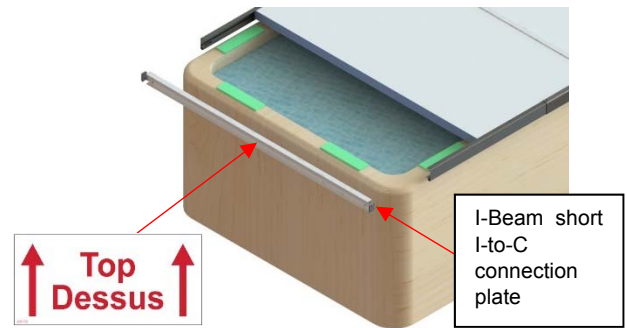

Figure 27
25) Slide the I-Beam with the short I to C connection plates in the C-Channels with the bent portion pointing inwards (Figure 27).